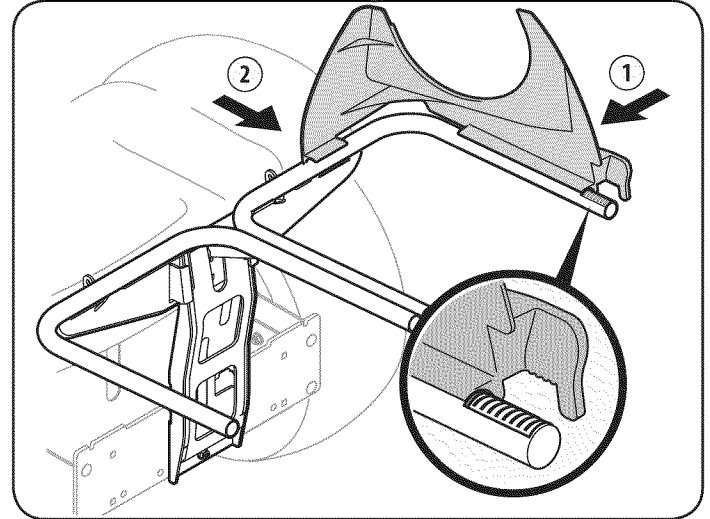

Figure 10
1. Snap the upper chute support in place by first clipping the side portion onto the bin support rail with the edge of the snap feature aligned with the red line (1), as shown in the inset of Fig. 10.
2. Snap the front portion of the upper chute support to the bin support rail as seen in 2 of Fig. 10.